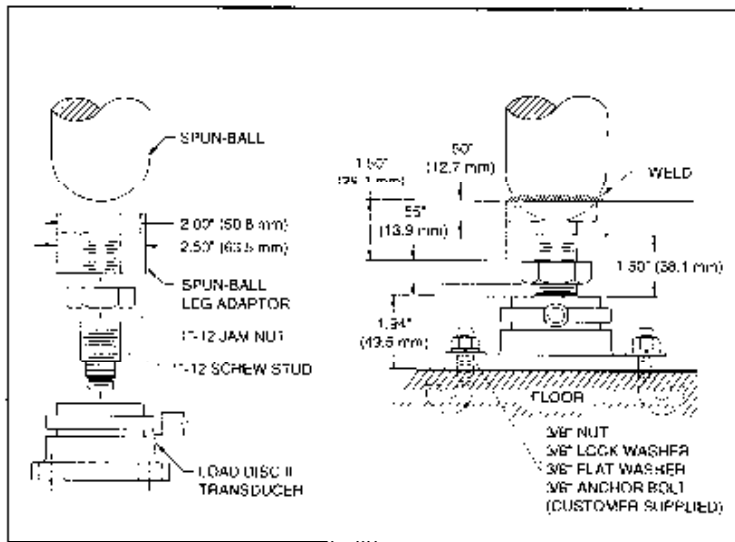

Figure 2-6. 150 lb to 25K lb Load Disc II Transducer with Spun-Ball Leg Adaptor Hardware Kit.
This Load Disc II transducer configuration has a hardware kit that is available for transducers with a load range of up to 25K lbs. The hardware kit consists of a spun-ball leg adaptor cup, a threaded adaptor stud, and a hex jam nut. The adaptor cup welds to a vessel leg after the vessel has been leveled (Figure 2-6).
6. Drill holes in the floor and install four anchor bolts (customer supplied) per base plate. Be sure that anchor bolts match the hole pattern and that they are straight. Kistler-Morse recommends using 3/8"-24 UNF\* or 7/16"-20 UNF\*\* anchor bolts that are grade ASTM-A325 or stronger. The threaded length of the anchor bolts should provide enough length for the 1/2-inch thickness of the base plate, the thickness of the leveling nut and flat washer under the base plate (optional), and the thickness of the lock washer, flat washer, and nut on top of the base plate (Figure 2-6).